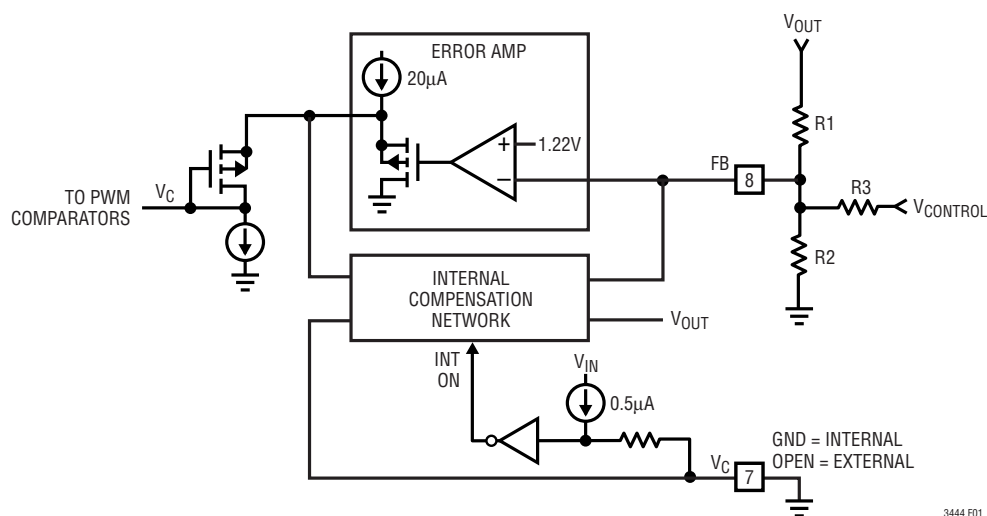

Figure 1. Error Amplifier with Compensation Select Function
The LTC3444 error amplifier is a voltage mode amplifier. The internal loop compensation is designed to optimize transient response to control input change when the proper output L-C and R1 values are used. Refer to Figure 1.
The output voltage is controlled via a summing resistor input at the feedback (FB) resistive divider string. Refer to Figure 1. The output voltage has an inverse relation to the control voltage as shown in Figure 5. The resistor values are dependent on the desired output voltage range and the